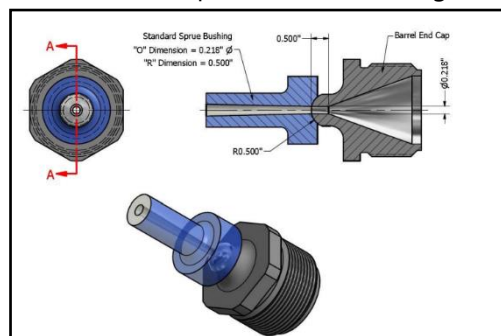

Figure 11.2. Injection moulding 1
- Usually, a ceiling fan and table fan consist of a capacitor start and run motor. Capacitor are always connected in the circuit the advantages of leaving the capacitor permanently in circuit. It has one starting winding in series with one capacitor and running winding since the capacitor remains in the circuit permanently. This motor is often referred to as permanent. Split capacitor runs motor and behaves practically like an unbalanced 2phase motor from figure 11.2